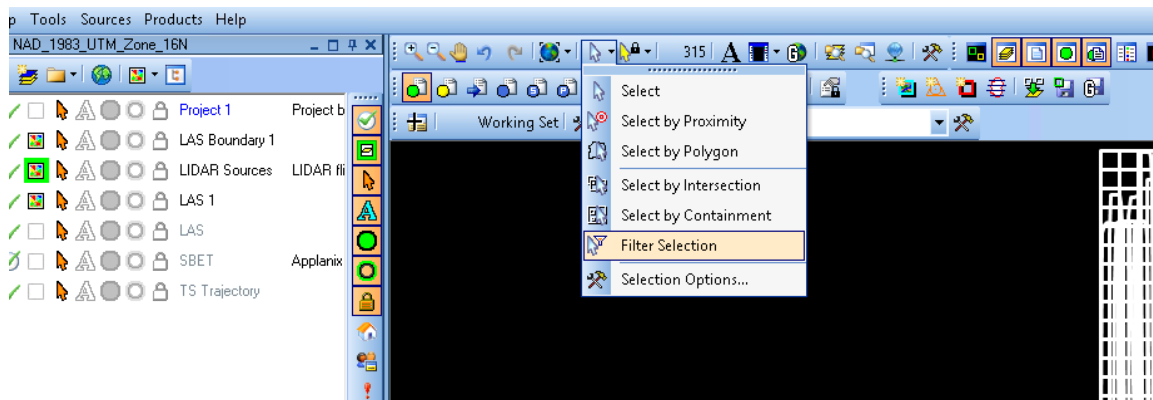

Figure 8-4 The Filter Selection tool
- Drag the *Selection* rectangle around the entire group of LAS Working Segments, LAS Boundary and LIDAR Sources. This will select everything that has its associated layer (V)isible and (S)electable. Now choose the *Filter Selection* option from the Selection tool drop-down list (Figure 8-4). This will display a table you can use to filter the selection. Leave only the LAS Working Segments checked in this list. Finally, press the “+” button on the Working Set toolbar to add the selected LAS Working Segments to the Working Set queue (this takes a lot longer to explain than it does to actually perform!).